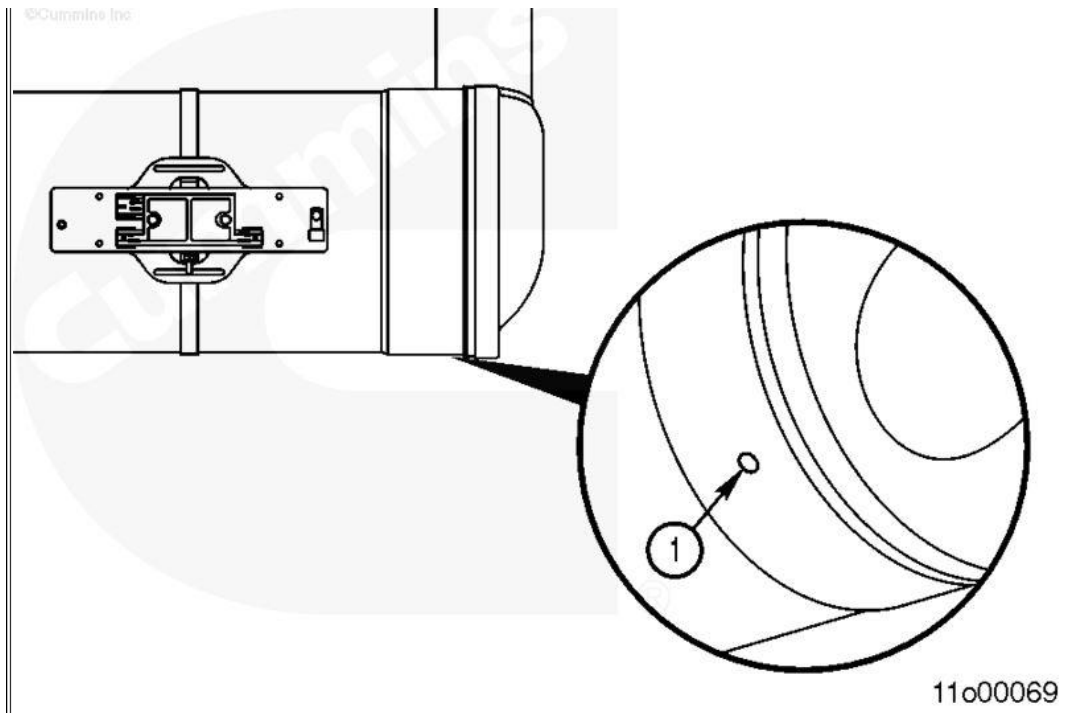

Figure 2: SCR Catalyst Drain Hole Location
1. Every aftertreatment SCR catalyst unit has a drain hole (Figure 2, Item 1) which allows water accumulated in the unit to drain out of the system. A plugged drain hole can cause an aftertreatment outlet NOx sensor to malfunction. The drain hole **must** be clear of debris, dirt, or any other material.